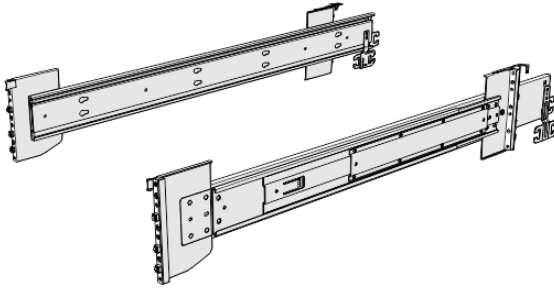

Figure 49. Support rails
1. Locate the hardware that is used to install the rails, including the M4xL6 and M5xL13 screws. Set the hardware, which is shown in Figure 49 on page 85, aside for use later in the installation process.